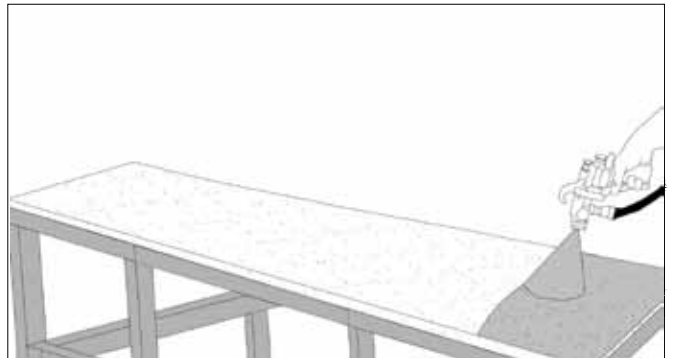

Figure 20B
- Apply contact adhesive on the substrate per manufacturer's recommendations. (FIG. 20B)